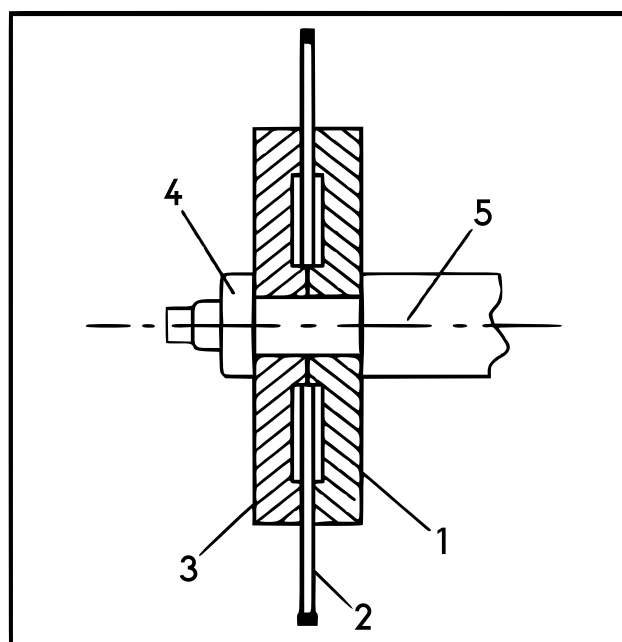

Figure 2
- To replace a worn disk, please take the following steps (**fig. 2**):
- Loosen the blade fixing nut (**4, fig. 2**).
- Remove the counter flange (**3, fig. 2**) and blade (**2, fig. 2**) and push the new blade on the flange (**1, fig. 2**). Consider the rotation direction indicated on the blade. Attach the counter flange (**3, fig. 2**).
- Tighten the fixing nut (**4, fig. 2**) and the splash guard.